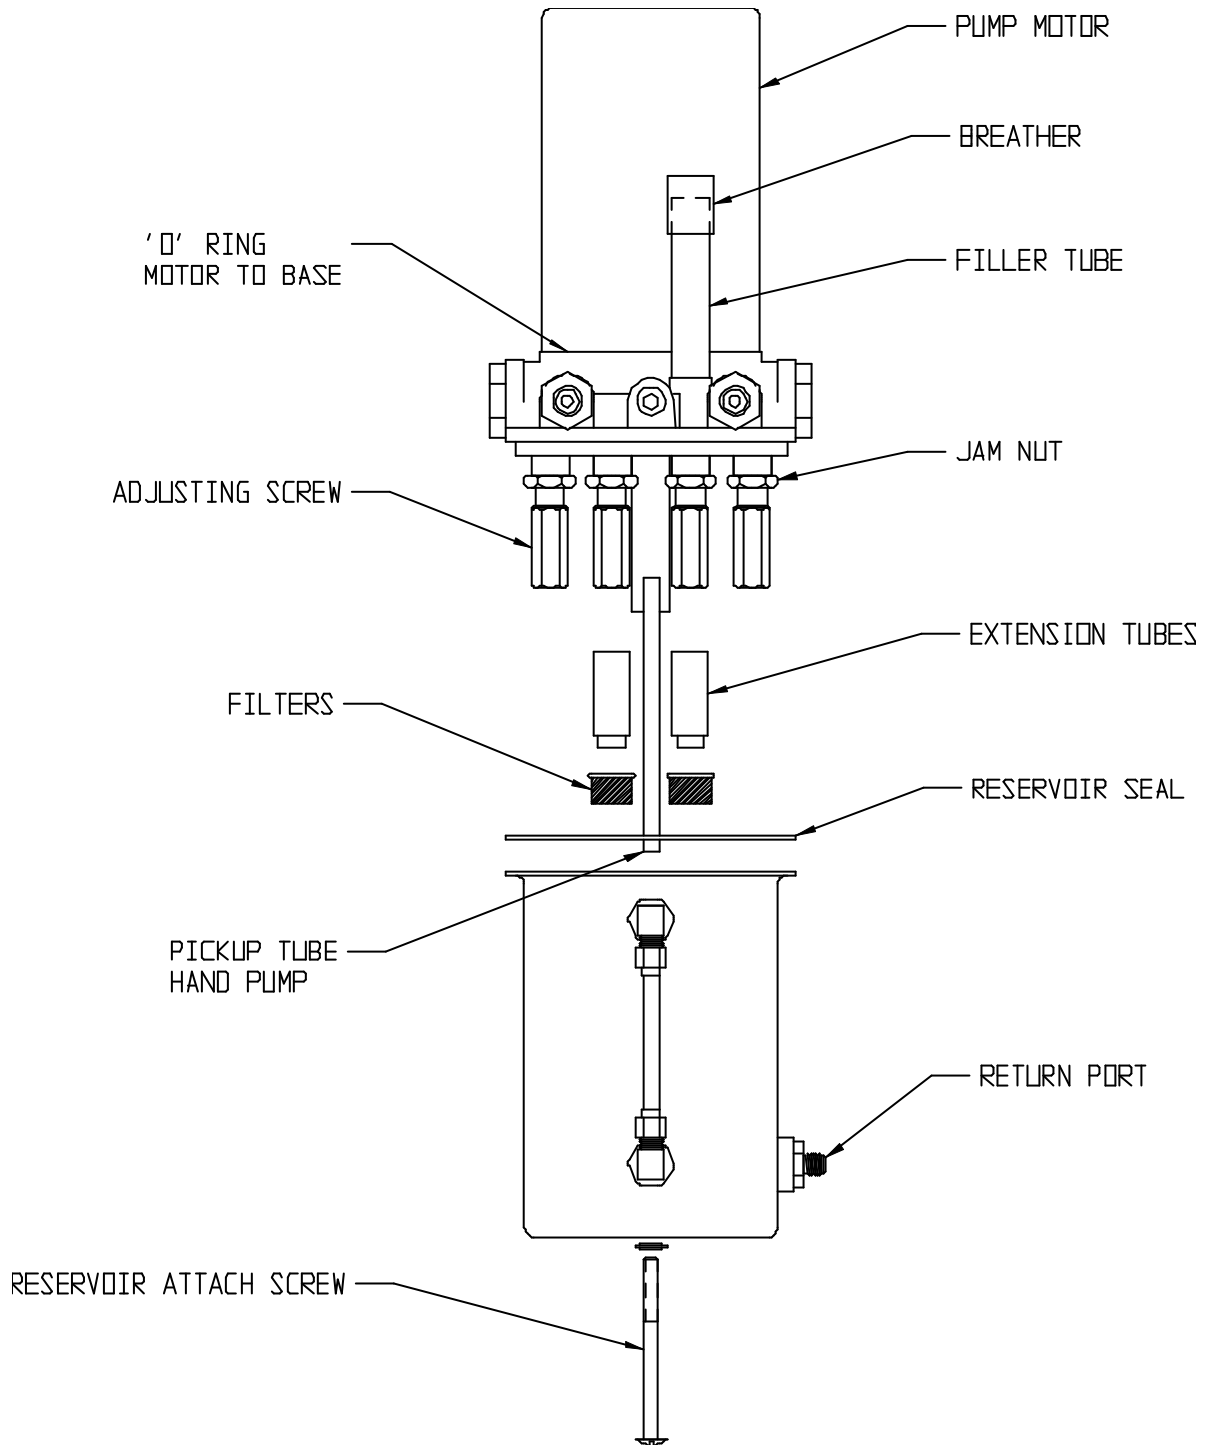

Figure 8-1. Hydraulic Pump
- 3) After tank removal, pick up filters to be pulled off (friction fit) and cleaned. (Refer to Figures 8-1 & 8-2.)